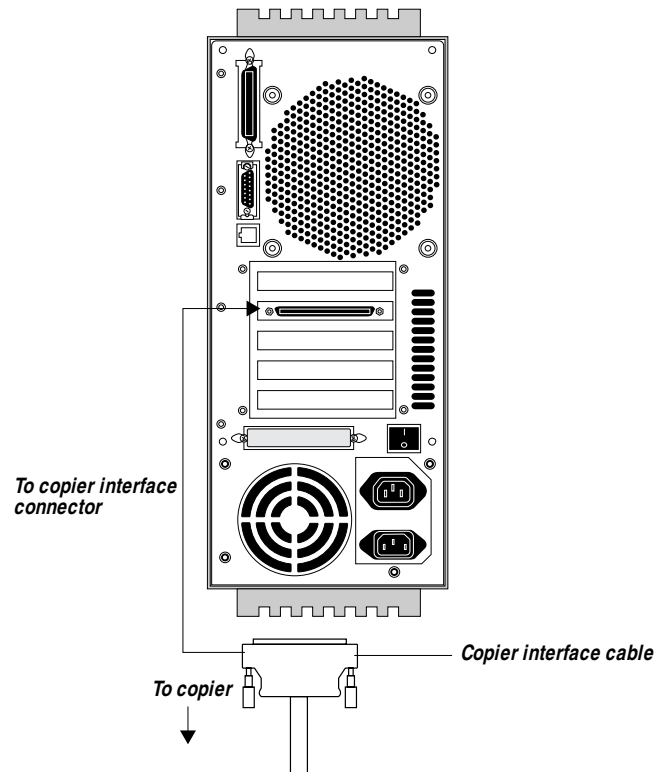

Figure 3-4 Copier interface cable connection
6. ***Connect the other end of the cable to the Fiery XJ BP100 copier interface connector (see Figure 3-4 on page 3-6).***